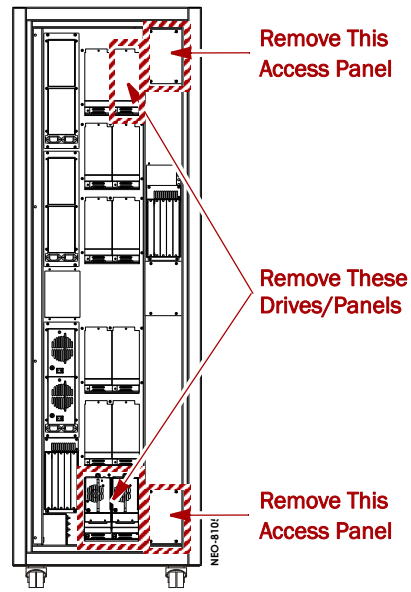

Figure 1-7: Remove Rear Panels or Drives for Rear BDA Replacement
1. Facing the rear of the library (Figure 1-7), remove and retain: